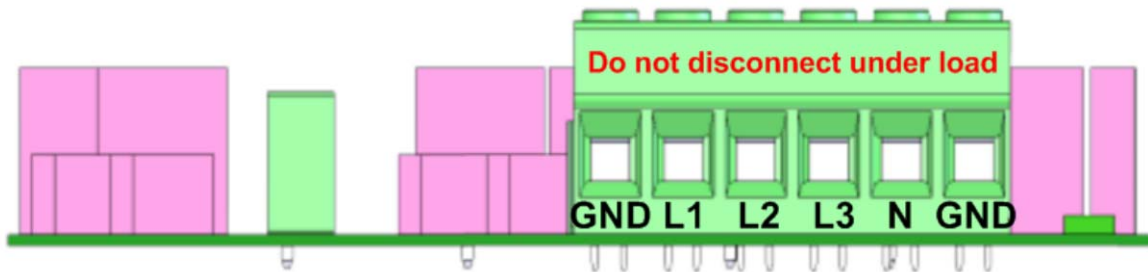

Fig. 14 Mains connection
- Connect the grid side conductors, L1,L2,L3 and Neutral to the AC terminal block.(see fig.14).